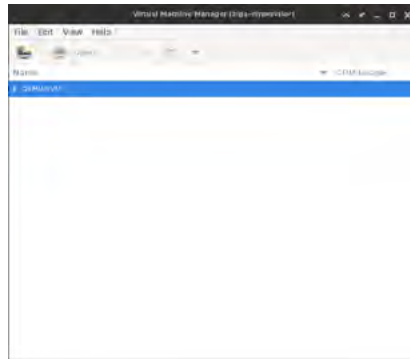

Figure 1: GUI of `virt-manager` transferred from *server* `ziga--hypervisor` to *client* `ziga--workstation` over network.
- Linux *clients* with X graphical server & SSH *client* installed can now execute command to open *server's* `virt-manager` and transfer it's GUI over network, figure 1.
- We can now run application `virt-manager` in order to see it's GUI being transfered over network to our Windows *client*. It will look the same as on the Linux *client*, figure 1.